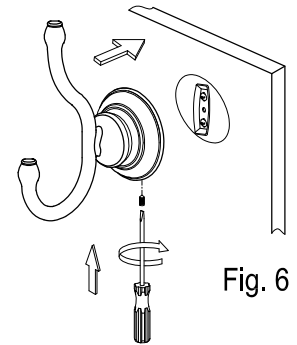

Fig. 6
- Step 6. Place the unit, with the small hole in the base underneath, over the mounting plate by tightening the slotted set screw with a flathead screwdriver until the base is tightly fixed (fig 6).